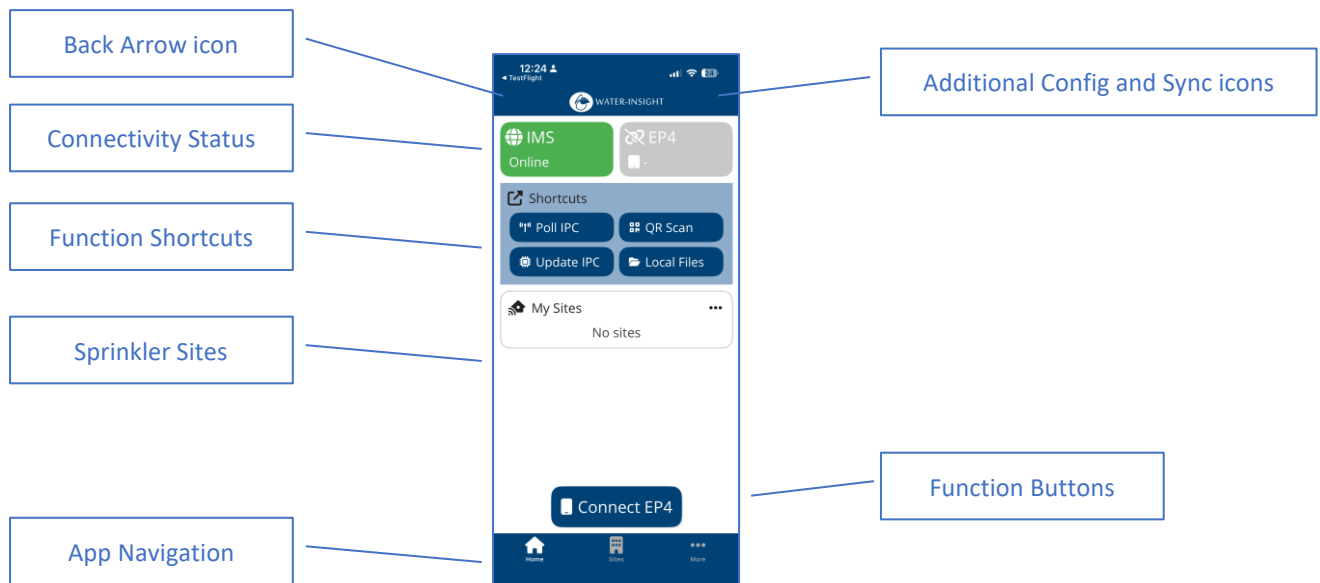

Figure 2
Once you have installed the app on your phone tap the app icon and you will be shown the app Home screen (Figure 2). The key features of the Home screen are:
2. Tap the **"Poll IPC"** shortcut on the Home Screen (Figure 2)